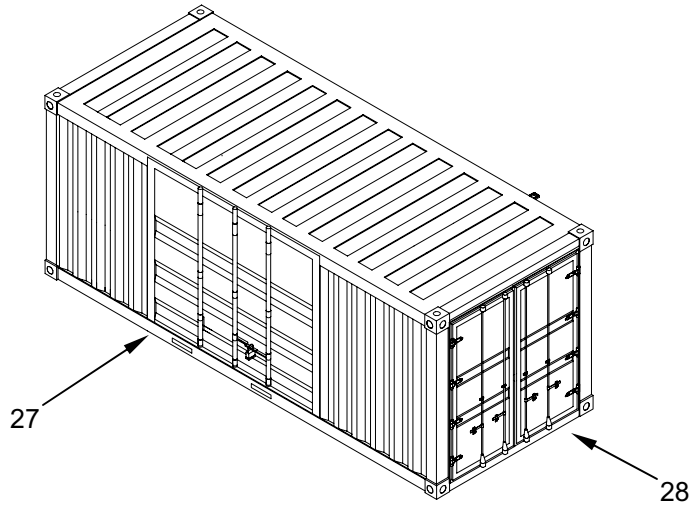

Figure 29. CBL Shut Down Procedure During NBC Imminent or Actual Attack.
19. Close center doors (Figure 29, Item 27) first, then end doors (Figure 29, Item 28).